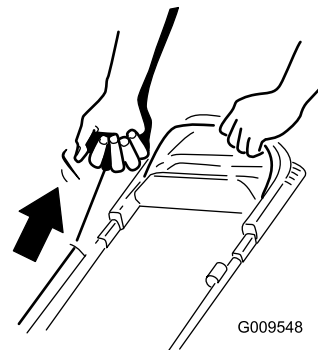

Figure 19
2. Pull the recoil-start handle (Figure 19).
**Note:** When you pull the recoil-start handle, pull it lightly until you feel resistance, then pull it sharply (Figure 19). Allow the rope to return to the handle slowly.